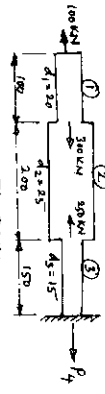

Fig. Q1(b)
- b. Determine the stresses in various segments of the circular bar shown in Fig. Q1(b).